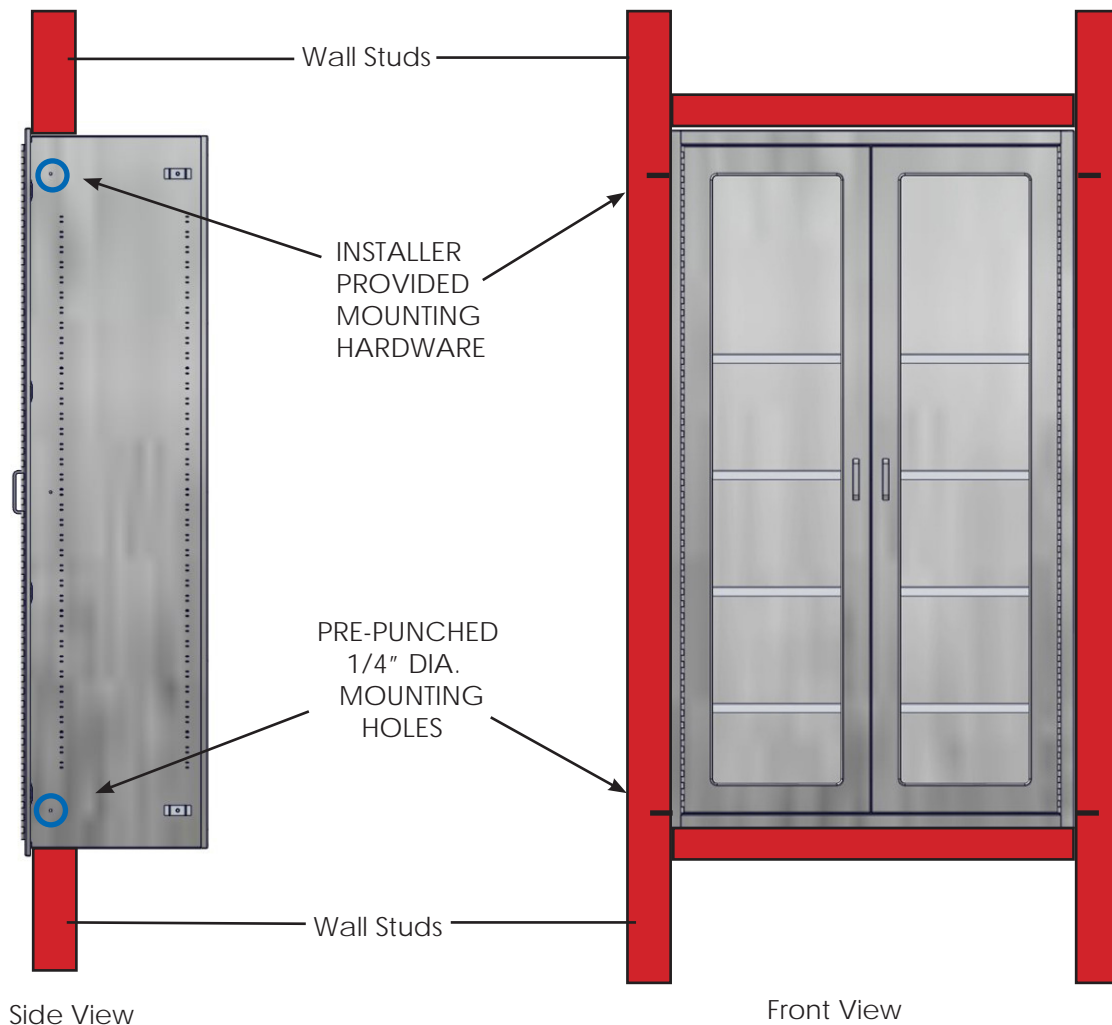

Fig. 26: Red Loctite
2. Carefully move the door back and forth along the adjustment slots in the wheel plate until the desired adjustment is achieved. Apply Red Loctite (Fig. 26) to the three screws.